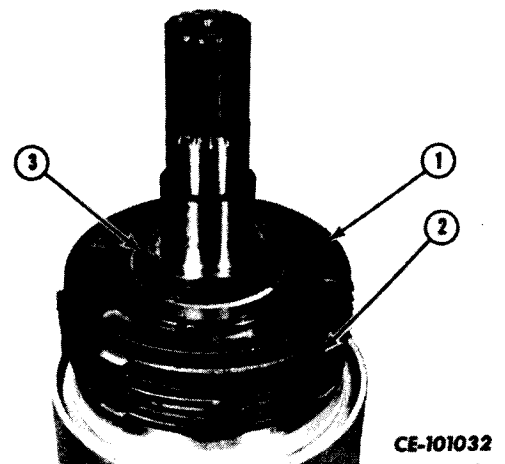

Figure 4-47
Install clutch spacer (3, Fig. 4-47) over retainer cap screws.
Install the correct number of steel and bronze plates (2, Fig. 4-47) (refer to "SERVICE INFORMATION" and current Parts Manual). Install the clutch backing plate (1).